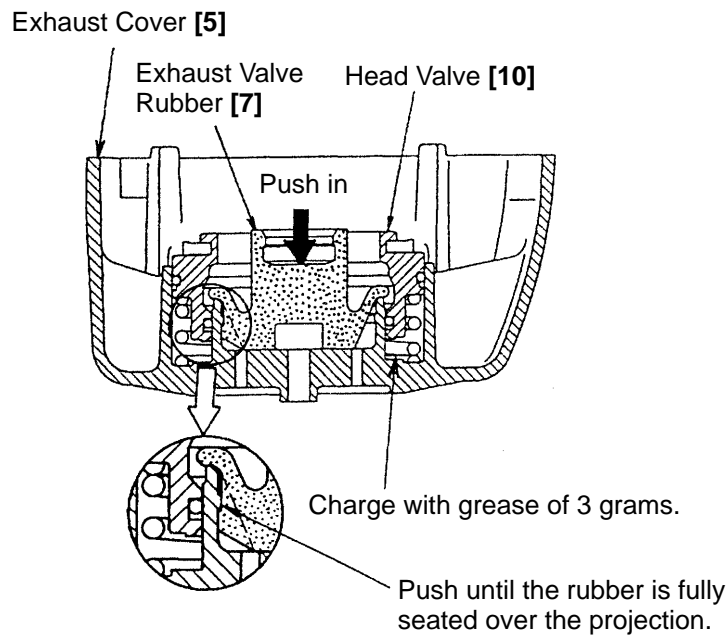

Fig. 2
- As shown in Fig. 2, firmly push the Exhaust Valve Rubber [7] until it is fully seated over the projection of the Exhaust Cover [5].